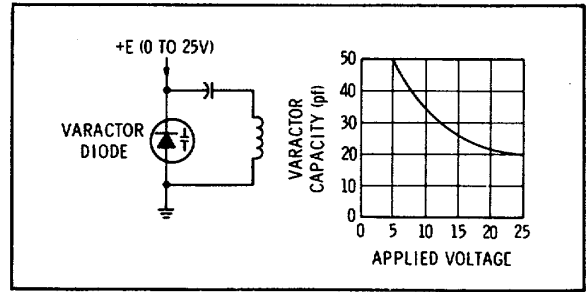

Figure 8-12. Varactor Characteristics.
**8-43. Varactor Diode.** Ordinary diodes when connected in the back direction exhibit a change in capacitance with a change in applied voltage. The varactor diode is specially designed to produce this effect and exhibits relatively large changes in capacity. Figure 8-12 shows a varactor diode in a resonant tank circuit connected in the back direction with respect to the applied dc voltage. The curve indicates the approximate two-to-one capacitance range for voltage variations from 0 to 25 volts.